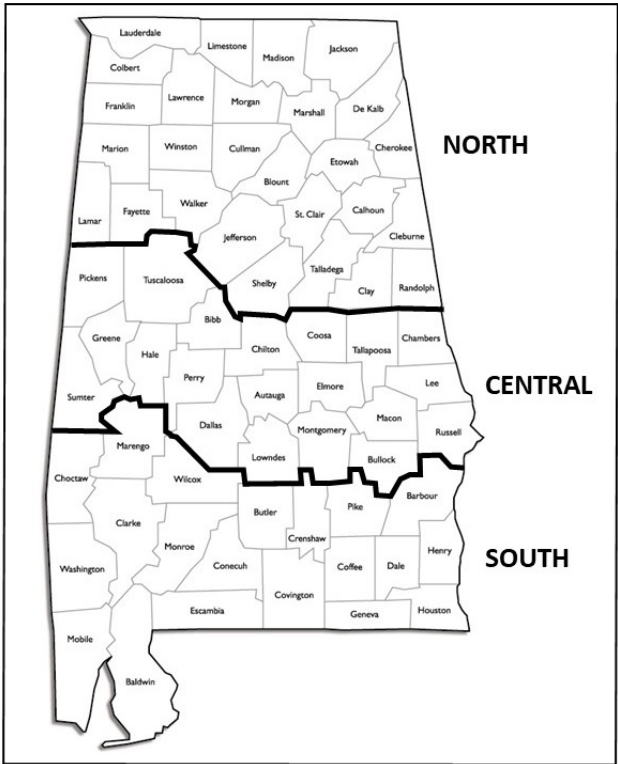

Figure TS-1 Geographical Areas for Species Adaptation in Alabama
- Plant the species specified. In the absence of plans and specifications, plant species and seeding rates may be selected by qualified persons using the information in Table TS-1 and Figure TS-1.